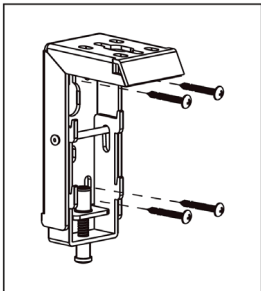

Fig. 2
- 1. Mounting on supporting structures made of wood:** Screw the enclosed 5x40 mm screws through the holes in the brackets as shown in figs. 2 and 3.